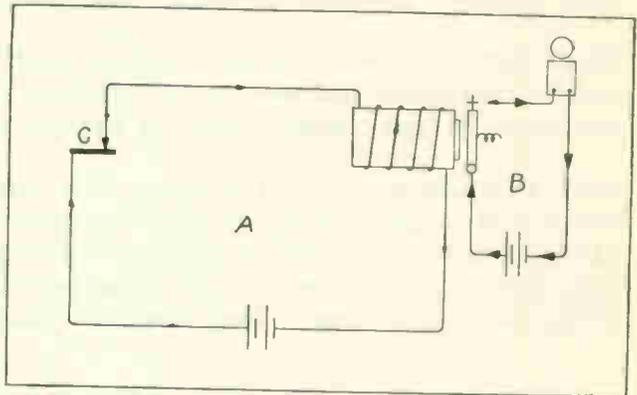

Fig. 6
- c. Using the closed contact only, as a simple alarm, Fig. 6.